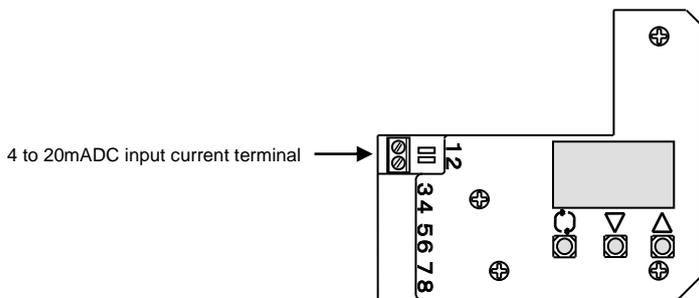

Fig. 8
- (1) Remove the positioner body cover.
- (2) Connect the input current wiring from an adjusting meter (controller) following Fig. 8*1.